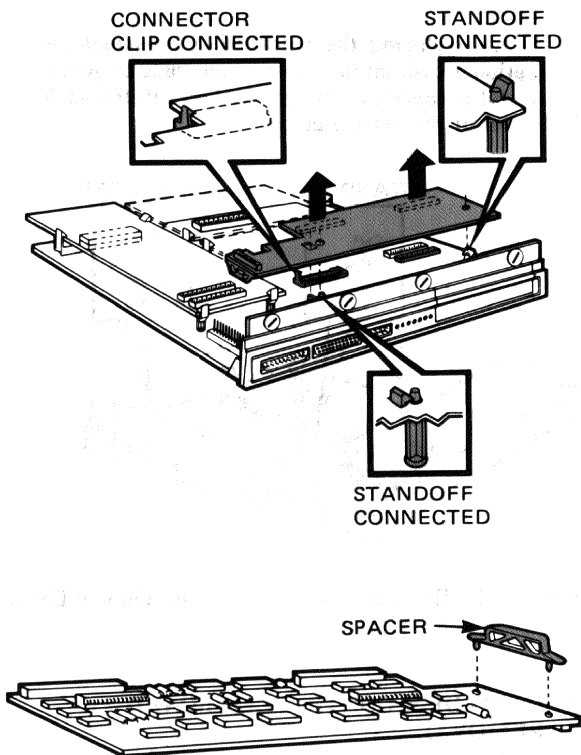

Figure 5-13 Hard Disk Controller Board Removal
2. Push the top of the connector clip and the two standoffs aside and lift the hard disk controller board off of the system module. See Figure 5-13.